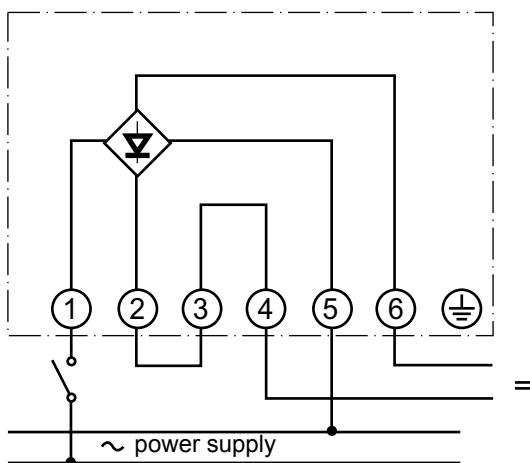

Fig. 3: Sizes 040 to 060
- 2 and 3 (fig. 3) for sizes 040 to 060 and